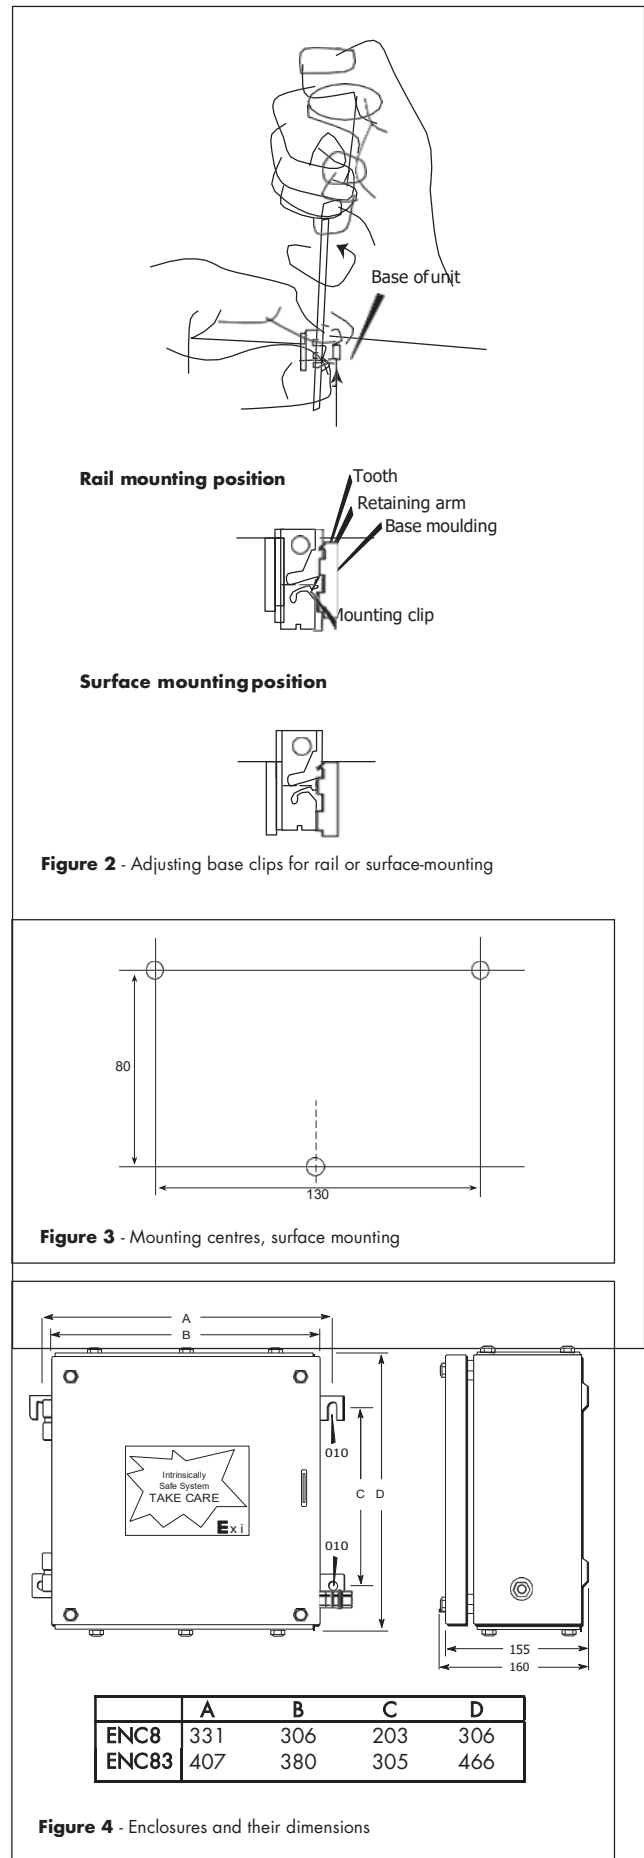

Figure 2 - Adjusting base clips for rail or surface-mounting
3.2.2 Mounting on a flat surface (figures 2 and 3)